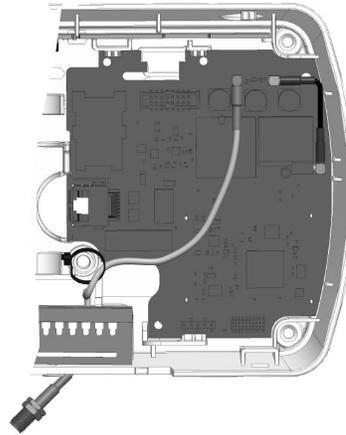

Figure 4: Installing the antenna connector
1. Insert the small end of the antenna connector through the opening above the terminal block (see Figure 4: ).